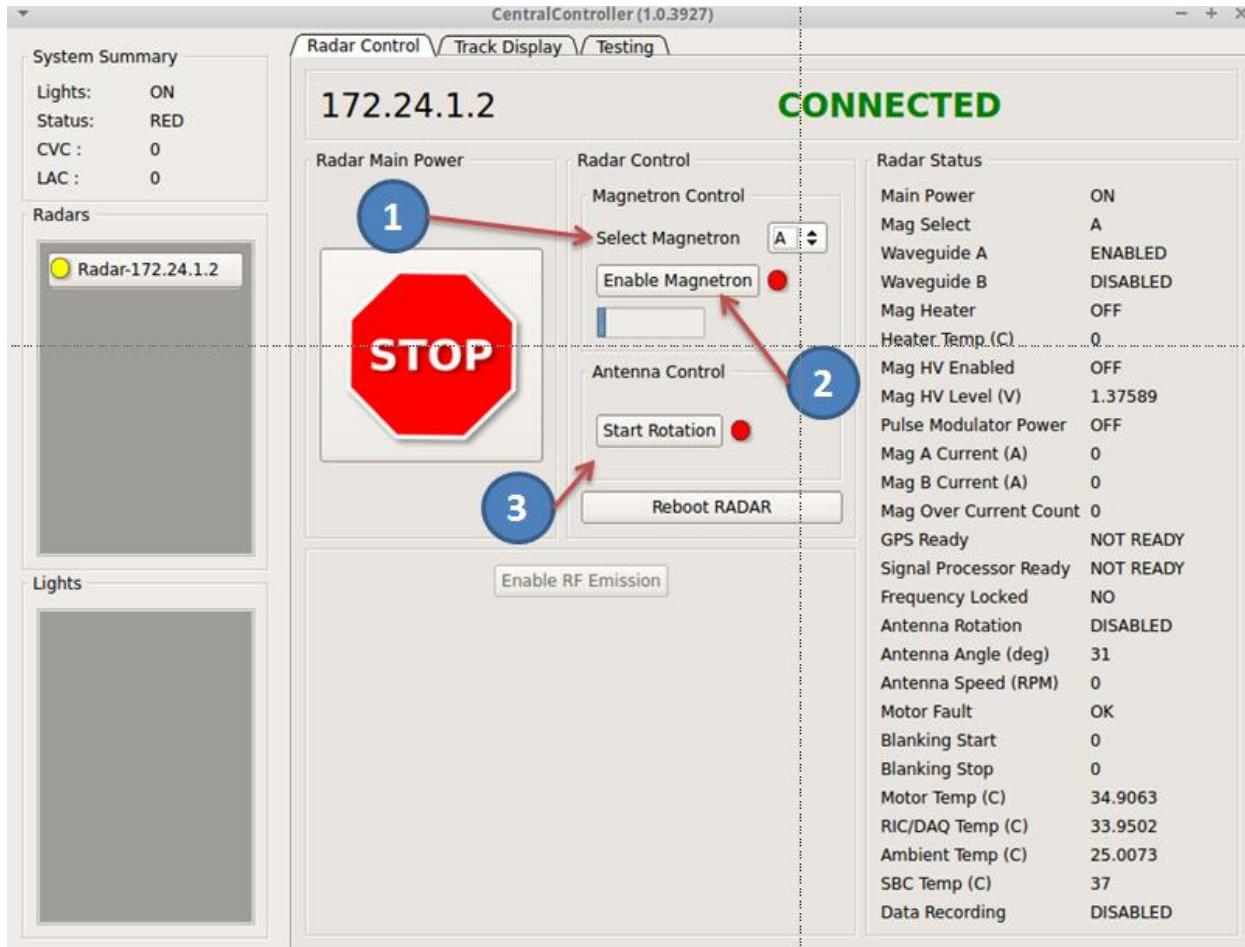

Figure 9. Radar Control GUI showing Magnetron Select feature.
- a. Select Magnetron A or B using the pull-down indicated by Icon 1 on Figure 9.
- b. Enable the Magnetron by clicking the “Enable Magnetron” indicated by Icon 2 on Figure 9. Once “Enable Magnetron” is selected the magnetron heater will begin heating (90 seconds heating time).
- c. The antenna (or dummy load if attached) can be made to rotate (or turned off) at any time by selecting the “Start Rotation” button indicated by Icon 3 on Figure 9.